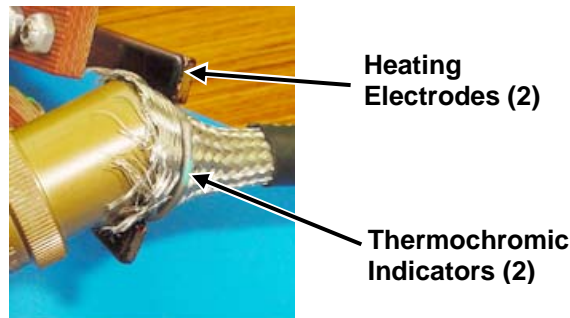

Figure 9. Heating the Tinel-Lock Ring
5. Place both electrodes on the either side of the ring, gripping it between the electrodes, ensuring that at least one spot of thermo-chromic paint on the ring is visible. See Figure 9.
7. Observe the thermo-chromic paint closely and when it changes color (darkens), ease the pressure on the foot-pedal to deactivate the electrodes. See Figures 9 and 10.